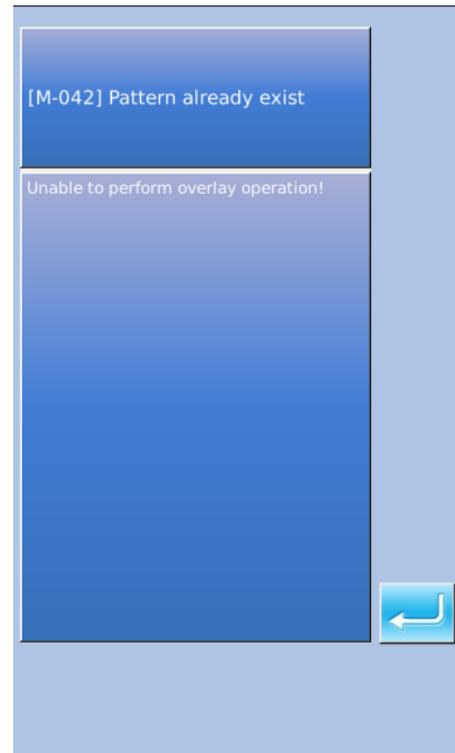

Figure 4
**Attention:** If the selected pattern number exists in operation panel, the screen as the figure 4 will be displayed. If the data is in other format, the panel will automatically turn it to the vdt format and save it into memory.